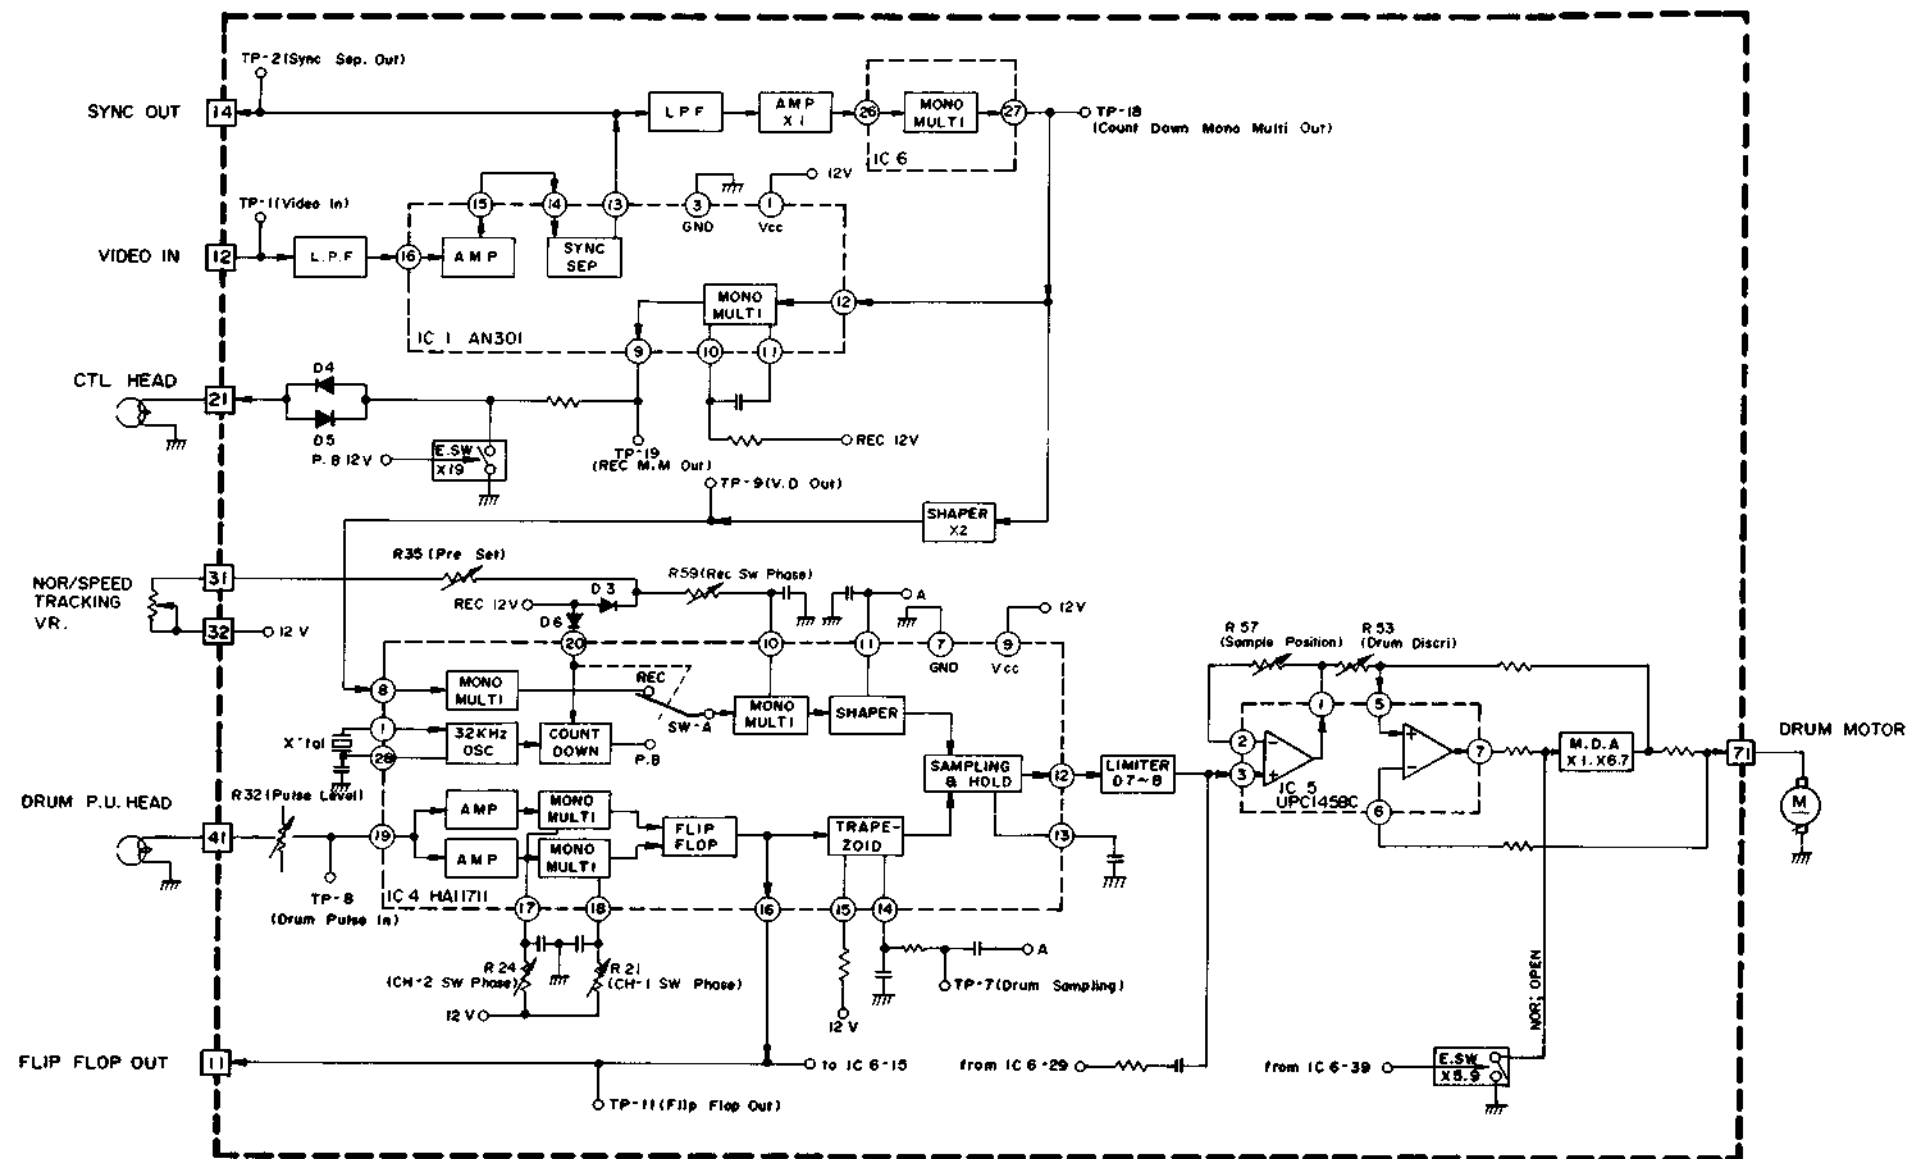
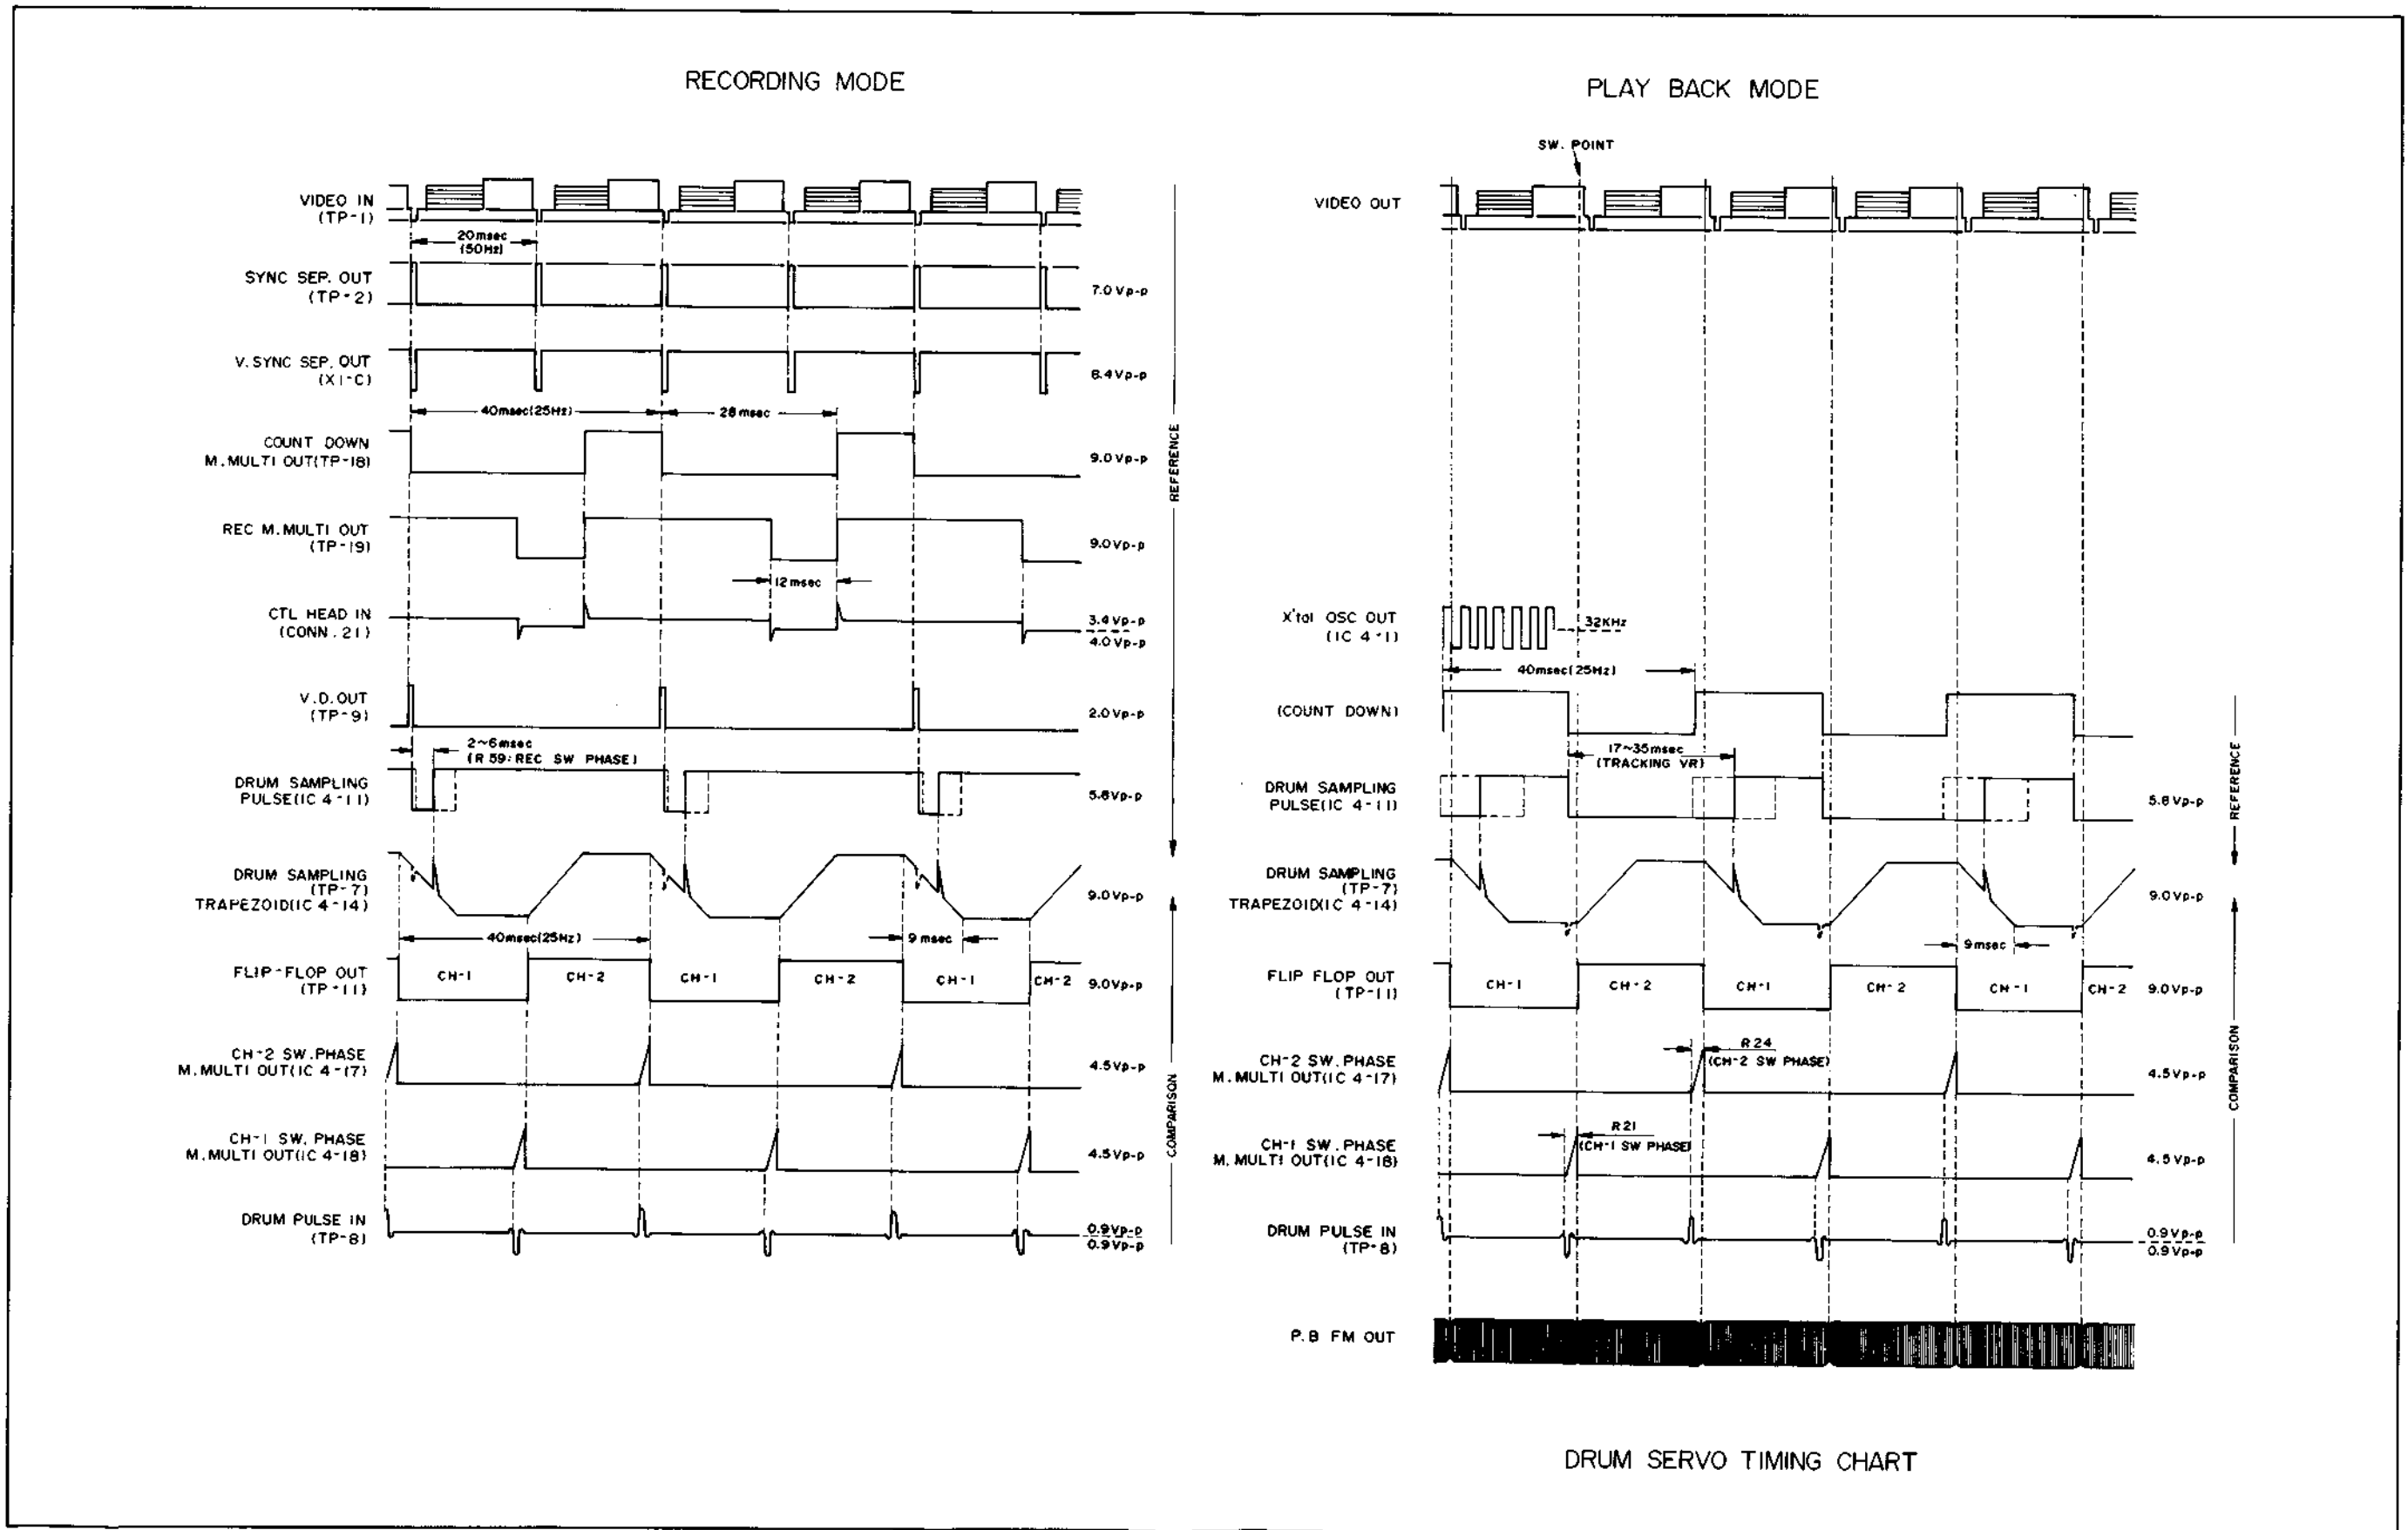

Fig. 2-5 Drum servo system block diagram
Fig. 2-6 Drum servo system timing chart
In Fig. 2-5, during recording, the video signal is supplied via conn. 12. The high frequency component is attenuated by a L.P.F., then supplied to IC1 pin 16. IC1 includes amplifier and sync separator circuits and the separated sync signal becomes available from pin 13. This is branched in two directions. One of these goes to the Y/C amp via conn-14. The other goes to a lowpass filter (LPF) where the high frequency horizontal sync component is attenuated. The vertical sync component is amplified at X1 and becomes obtained as a 50 Hz squarewave. In IC6, a monostable multivibrator (MMV) counts down the 50 Hz squarewave to 25 Hz. The timing chart of TP-18 is shown in Fig. 2-6.
(1) Output (M) in Fig. 2-5 is supplied from IC6 pin 29 to IC5 pin 3. Since slow motion playback consists of alternating still and normal modes, the head to tape relative speed varies. The length of 1H also varies and horizontal jitter arises in the picture display. In order to reduce this, output (M) is differentiated and applied to IC5 pin 3 to minimize changes in relative speed.
(2) Although not shown in the timing chart, when switching from still to slow motion, rising pulse (G) is produced by MMV (5) out. Slow motion is then obtained.
(3) When switching from slow motion to still, if the tape is stopped, the still mode is obtained immediately. However, if the tape is moving, the still mode becomes produced after completion of motion.